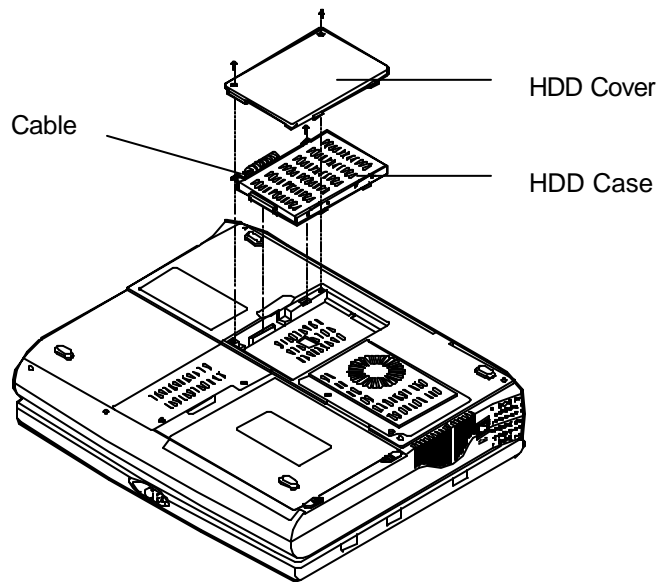

Figure 2-8
3. Remove the HDD cover (Figure 2-8).
4. Disconnect the cable (Figure 2-8).
5. Detach the HDD case from the Notebook (Figure 2-8).